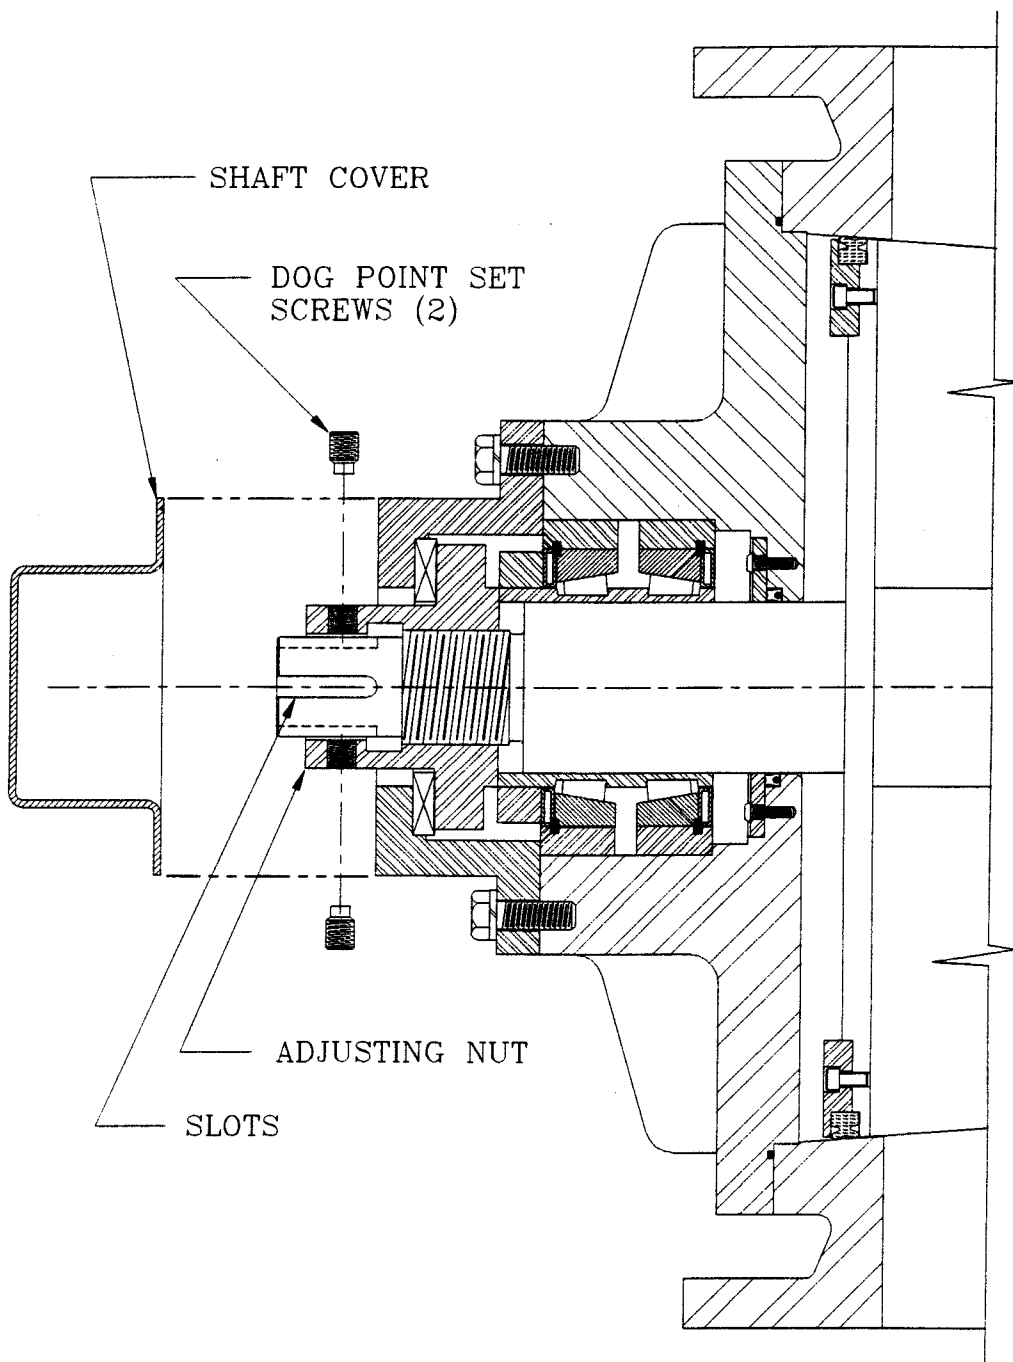

FIG. 1
Before installing the valve use feeler gauges to check the rotor vane to housing clearance to see that they agree with the factory settings. This can be done through the product inlet and outlet openings. Next, remove the shaft cover (see Fig. 1) and check to make sure the two set screws in the adjusting nut are securely in place and then replace the shaft cover.
- 2.) Remove the shaft cover (see Fig. 1)